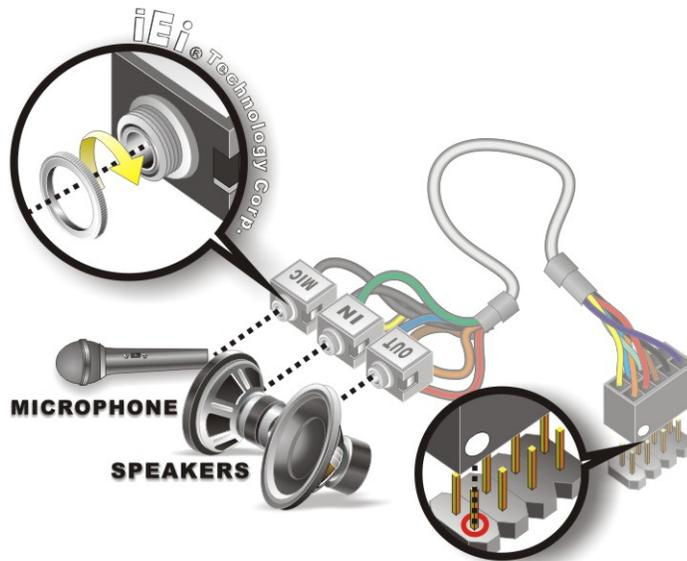

Figure 5-7: Audio Kit Cable Connection
Step 2: **Align pin 1.** Align pin 1 on the onboard connector with pin 1 on the audio kit connector. Pin 1 on the audio kit connector is indicated with a white dot. See **Figure 5-7**.